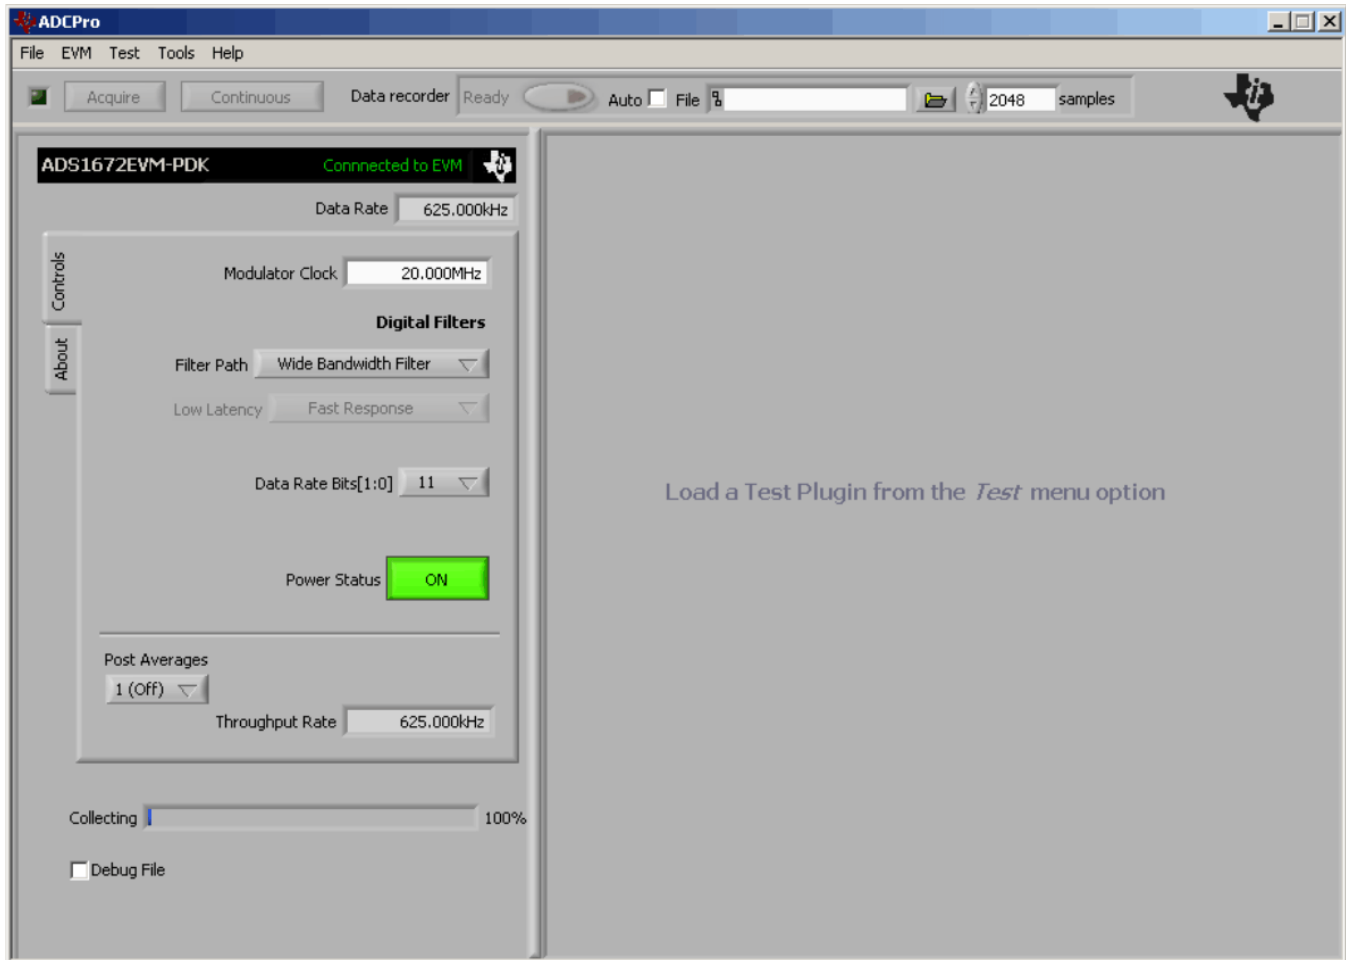

Figure 14. ADS1672EVM-PDK Plug-In Display Window
- Step 2. Select *ADS1672EVM* from the EVM drop-down menu. The *ADS1672EVM-PDK* plug-in appears in the left pane, as shown in Figure 14.
The ADS1672EVM-PDK plug-in for ADCPro provides complete control over all settings of the ADS1672. It consists of a tabbed interface (see Figure 14), with all of the functions available on the main tab. The controls on the main tab are described in this section.